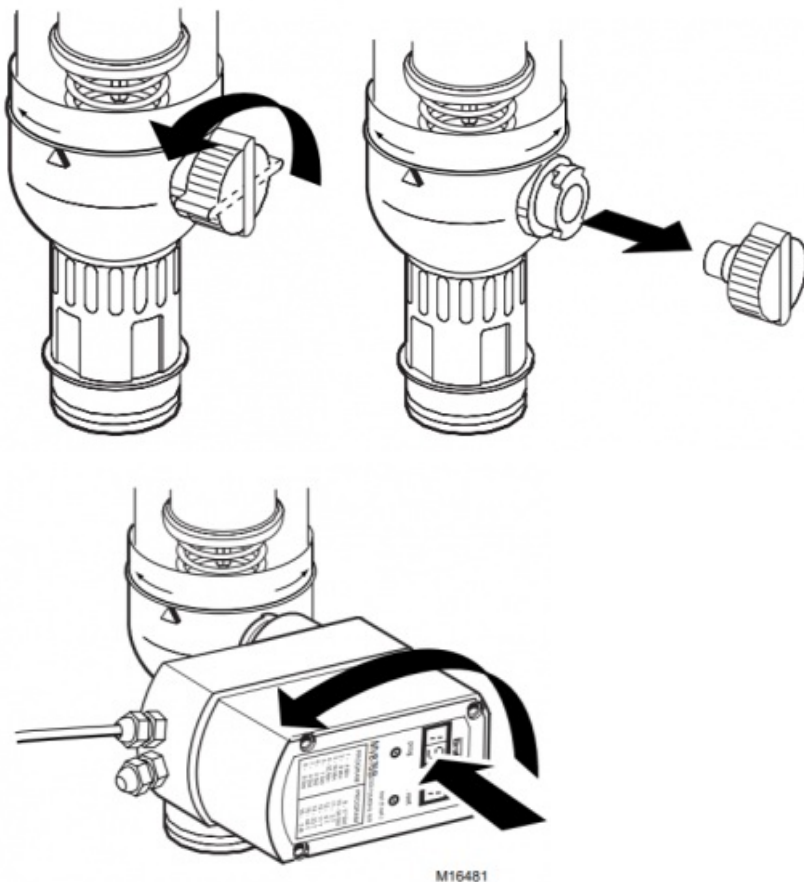

Fig. 9. Installing the MV876.
3. Install the See Fig. 9 and 10.